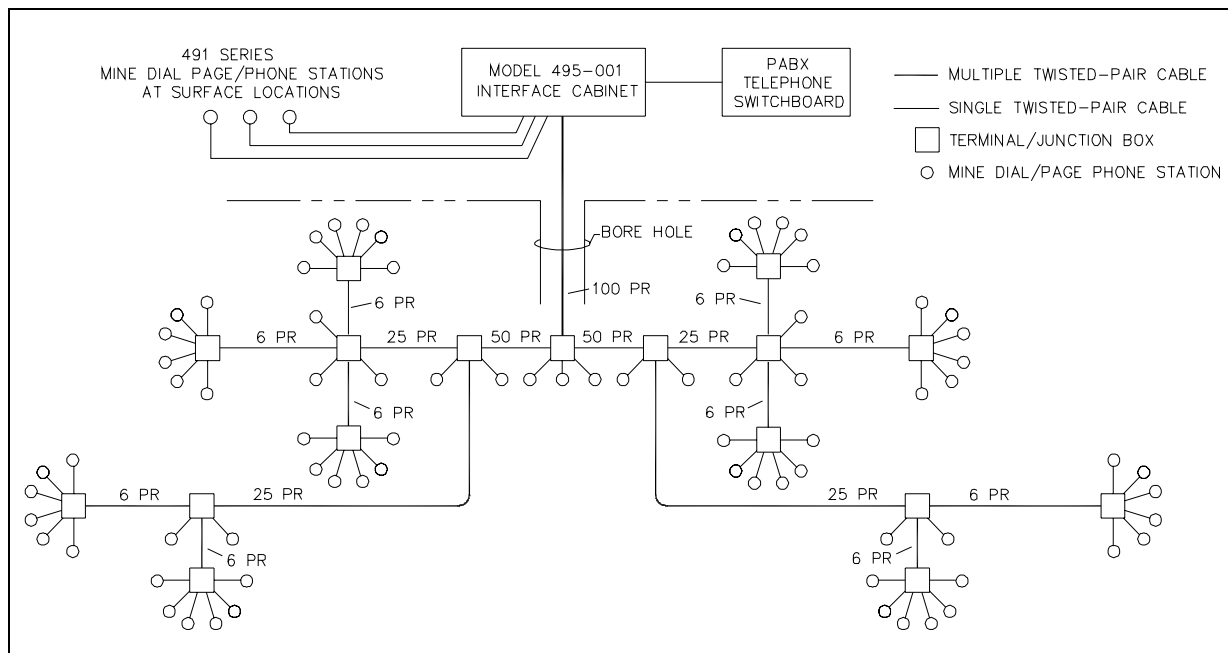
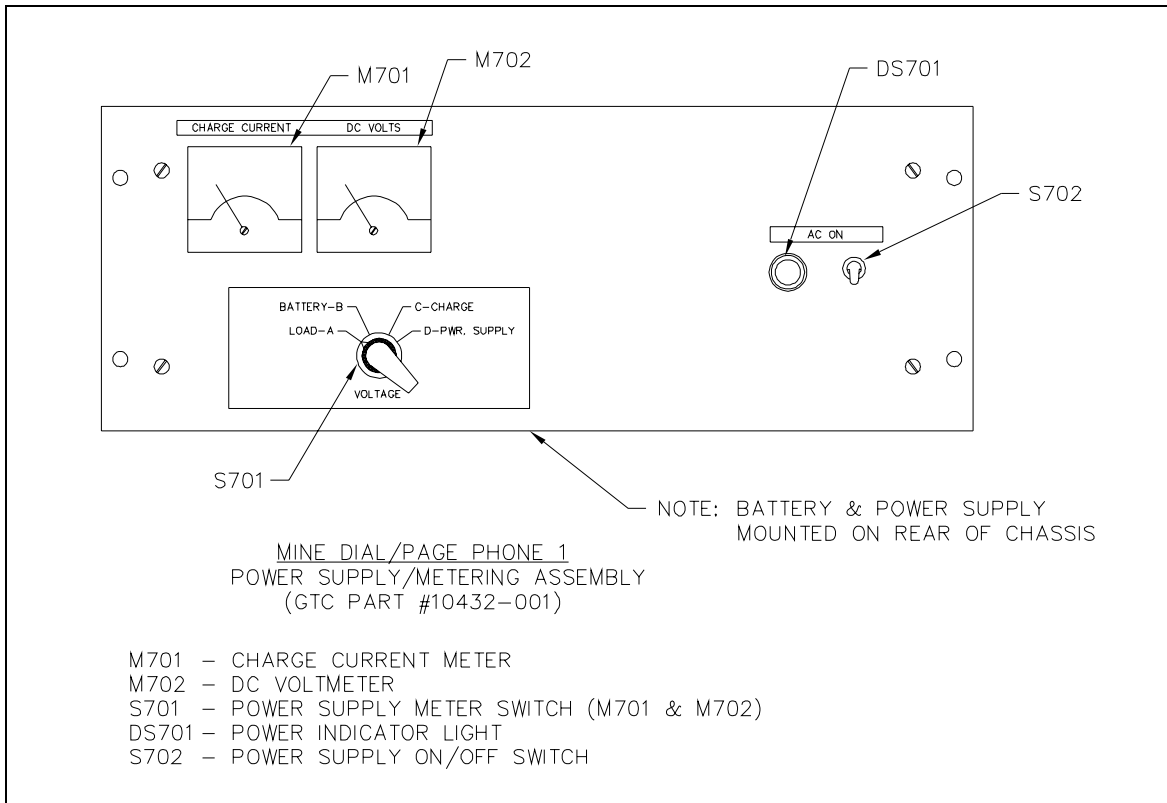
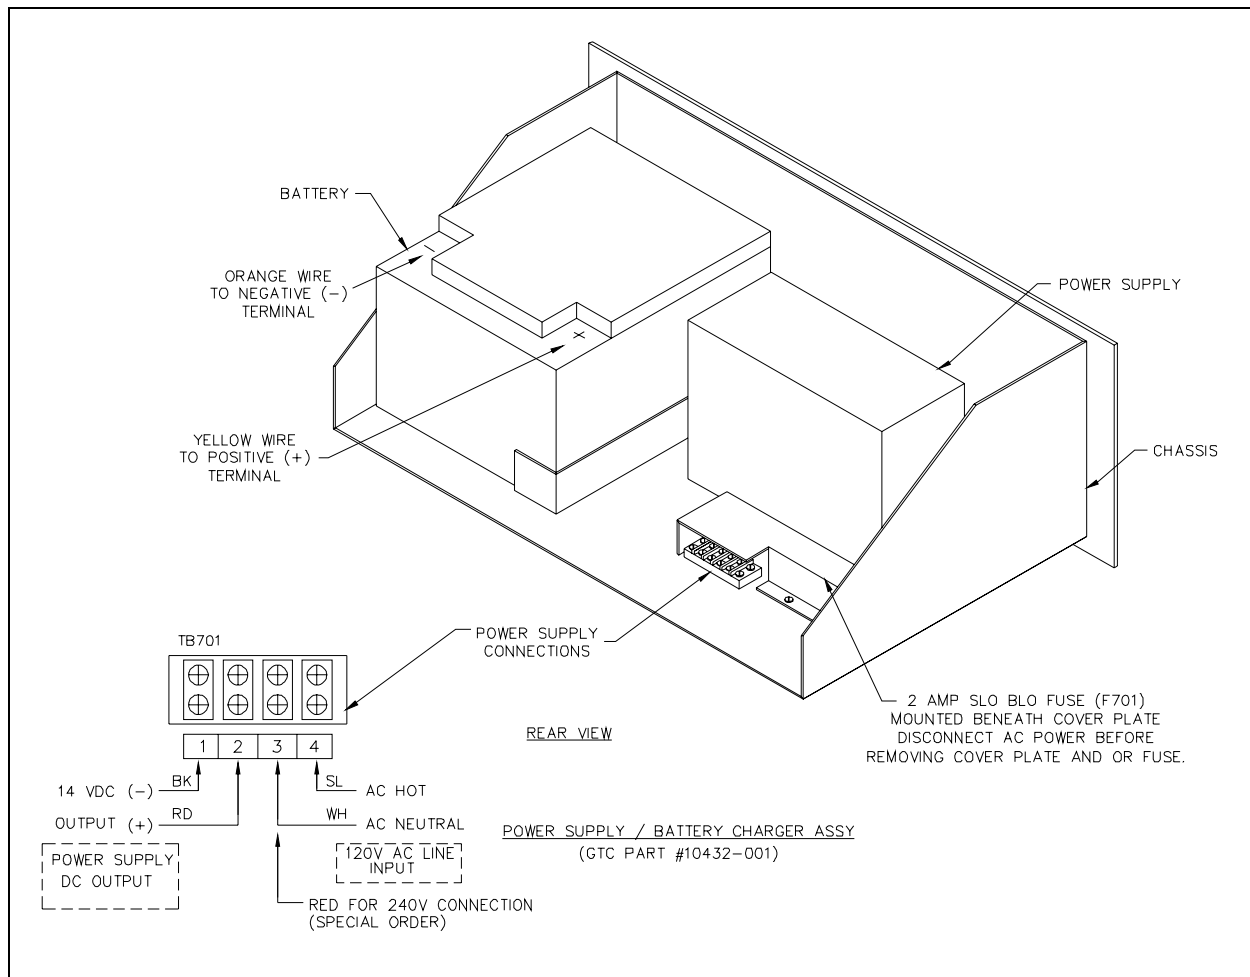

Figure 5. Typical 80-Station Mine Dial Phone Cable System
Figure 8. Power Supply
Figure 9. Power Supply/Battery Charger Assembly
DC power to operate the interface circuitry ordinarily comes from an ac-operated power supply located within the Power Supply/Metering Panel assembly. See Figure 8 and Figure 9. Space is provided within this assembly for a rechargeable, non-liquid, lead acid 12 V battery. The battery backs up the system in the event of power supply failure or ac power source failure. The Power Supply/Metering Panel assembly contains meters and switches to indicate the state of the power supply and battery. The assembly occupies the space of a 7 × 19-inch rack panel.
The cable system for a typical 80-station system is shown in Figure 5. The drawing shows the use of 100, 50, 25, and 6-pair cable. Spare conductor pairs in all main distribution cables provide for future expansion. Cable with an integral messenger wire, commonly called “figure 8 cable,” simplifies installation.
AC Power Connection - 120 V ac, 60 Hz, should be brought into the receptacle box at the rear near the floor of the cabinet. All ac-operated circuits within the interface cabinet are pre-wired to this receptacle box. The power line to the interface cabinet should have an independent 15-amp (minimum) line. Be sure the AC ON switch on the front panel of the Power Supply/Metering Panel Assembly is in the down (off) position before applying ac power. See Figure 8.
Install the stand-by battery in the rear of the Power Supply/Metering assembly as shown in Figure 9. Connect the orange wire to the battery negative (-). Allow the yellow wire to remain disconnected until power supply has been checked out.
Set S701 to the D-PWR. SUPPLY position and turn on (up position) S702 on the Power Supply. See Figure 8. The amber indicator light (DS701) on the front panel should be lit. The dc voltmeter (M702) of the front panel should indicate approximately 14 V dc and the charge current (M701) meter should read 0 amp current flow.
After the power supply/battery charger has been installed and checked out, connect the yellow wire from the Power Supply/Metering assembly to the battery positive (+) terminal as shown in Figure 9. Turn the voltmeter switch to the “B-Battery” position. The voltmeter (M702) should read about 12 V.
Refer to Figure 8. If the green RESET INDICATOR lamp (**CR504**) on the DC Power Transfer assembly panel is not lit:
4. Turn switch to D-PWR.SUPPLY position. If the DC VOLTS meter now indicates zero or near zero voltage, even with the presence of ac line voltage, the internal power supply may be defective, or the ac fuse may be blown. The ac line fuse is a 2 amp slo-blo (**F701**) fuse located in the rear of the Power Supply Metering assembly under a cover plate. Refer to Figure 9. The cover plate must be removed to access the fuse.